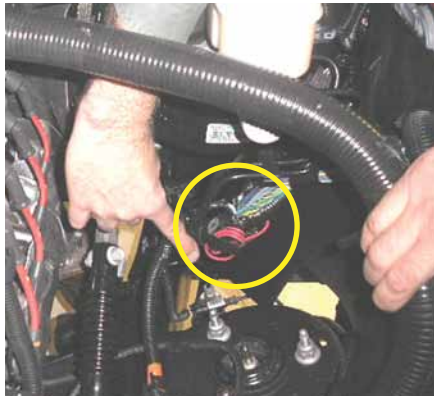

Figure 1
1. Locate the red wire looped and taped to the chassis harness below the brake master cylinder (Fig. 1)